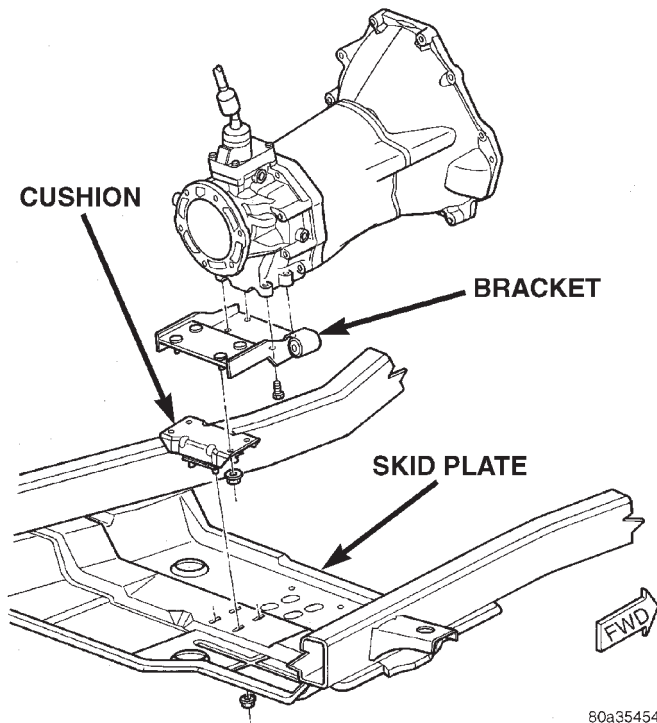
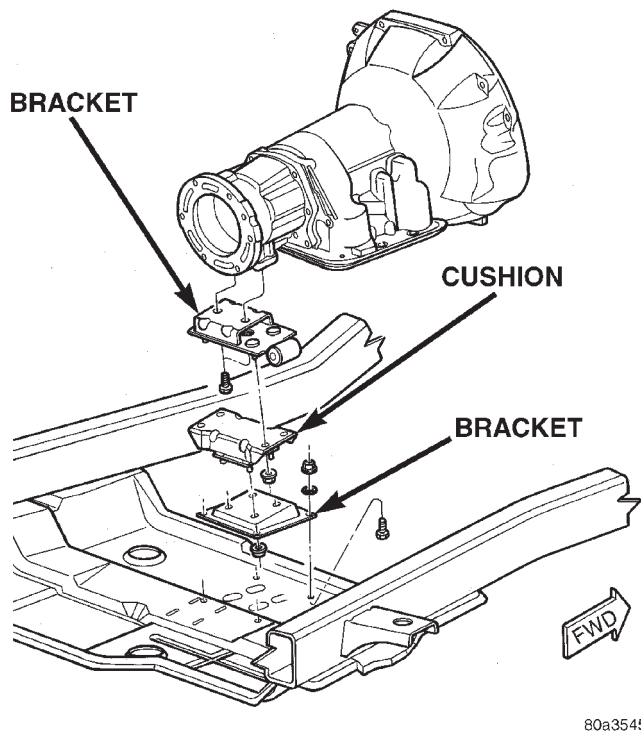

Fig. 24 Rear Mount (Manual Transmission)
Fig. 25 Rear Mount (Automatic Transmission)
- (1) Disconnect negative cable from battery.
- (2) Raise the vehicle and support the transmission.
- (3) Remove the nuts holding the support cushion to the skid plate (Fig. 24) (Fig. 25).
- (4) Remove the skid plate bolts and the skid plate.
- (1) Remove nuts holding support cushion to transmission support bracket (Fig. 25). Remove the support cushion.
- (1) Position the transmission mount bracket to the transmission and install the bolts (Fig. 24).
- (2) Tighten the bolts to 54 N·m (40 ft. lbs.) torque.
- (3) Position the support cushion to the transmission mount bracket and install nuts (Fig. 24).
- (4) Tighten the nuts to 41 N·m (30 ft. lbs.) torque.
- (1) Position the transmission mount bracket to the transmission and install the bolts. Tighten the bolts to 54 N·m (40 ft. lbs.) torque.
- (2) Position the support cushion to the transmission mount bracket and install nuts. Tighten the nuts to 41 N·m (30 ft. lbs.) torque (Fig. 25).
- (3) If the support cushion bracket was removed from the skid plate, position the bracket on the skid plate and install the nuts and bolts. Tighten the nuts to 28 N·m (21 ft. lbs.) torque.
- (1) Position the skid plate to the studs of the support cushion and install the nuts (Fig. 24) (Fig. 25). Tighten the nuts to 28 N·m (21 ft. lbs.) torque.
- (2) Install the skid plate bolts to the sill and tighten to 75 N·m (55 ft. lbs.) torque.
- (3) Remove the transmission support.
- (4) Lower the vehicle.
- (5) Connect negative cable to battery.